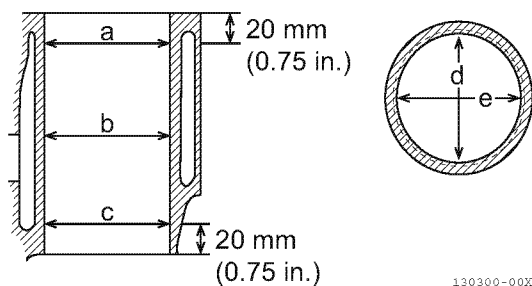

Figure 6-73
- Take measurements at three places (Figure 6-73) (a, b, c), and in two directions (d and e) in each cylinder.